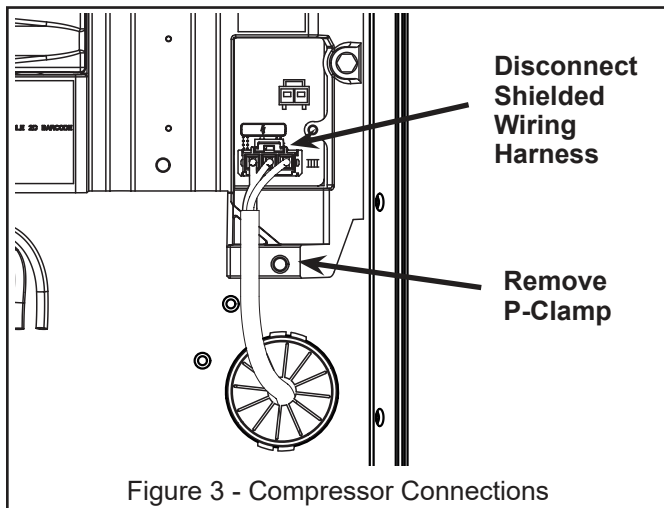

Figure 3 - Compressor Connections
1. Remove the P-Clamp securing the shielded wiring harness. (see "Figure 3 - Compressor Connections") located at the bottom of the Drive.